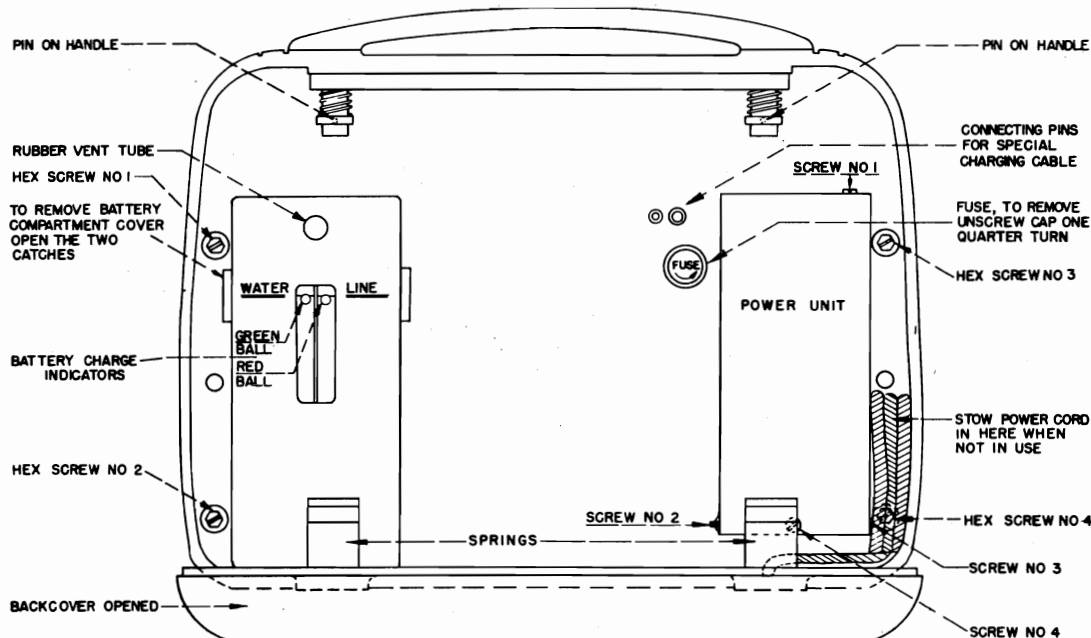

Fig. 3. Rear Compartment Assembly
1. Pull out the pins on the handle of the cabinet (Figure 3).